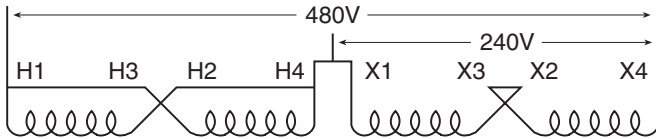

Figure 1
36. Can 4-Winding Single Phase Transformer be auto-connected? Yes. There are occasions where 480 volts single phase can be stepped down to 240 volts single phase by autoconnecting a standard 4-winding isolating transformer as shown in Figure 1. If connected in this manner, the nameplate kVA is doubled. For example: A 10 kVA load can be applied to a 5 kVA 4-winding transformer if connected per Figure 1.